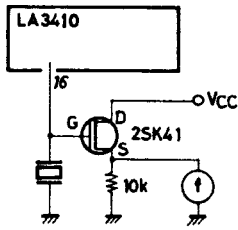

Fig. 3
Since no pin is provided for checking the free-running frequency, the free-running frequency is checked through a buffer amplifier with a high input impedance, low input capacitance connected to pin 16. Fig. 3 shows a sample circuit configuration. The frequency measured in this circuit configuration is 456kHz or thereabouts. The frequency in 19kHz equivalent can be obtained by dividing this measured value by 24. The wiring across pin 16 and the buffer amplifier input must be made as short as possible (within 1cm).
(3) Fig. 4-D shows the capture range characteristic when C10 is varied. The adequate value of C10, which depends on C9 and R8, is 0.33 to 3.3μF. If the value of C10 is decreased too much, the capture range will decrease as seen from Fig. 3 ; and if increased too much, the stereo start time after VCO STOP release will be made late.